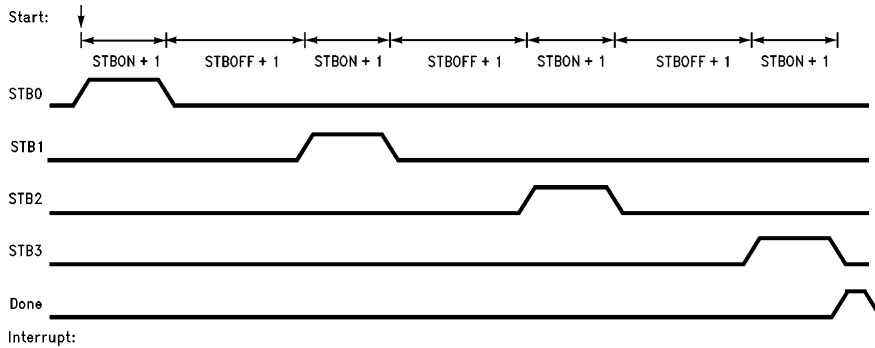
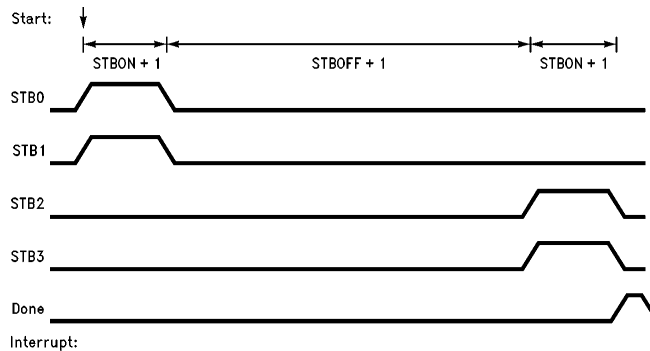

FIGURE 2-12. Four Strobes Mode (STBM = 00)
FIGURE 2-13. Two Strobes Mode (STBM = 01)
The two strobing modes are shown in *Figure 2-12* and *Figure 2-13* for TPHC.SPOL = 1. Note that “Start” is the beginning of the time slot and “Done” is the Strobes-Done event.
**STBM:** Strobing mode (see *Figure 2-12* and *Figure 2-13*).